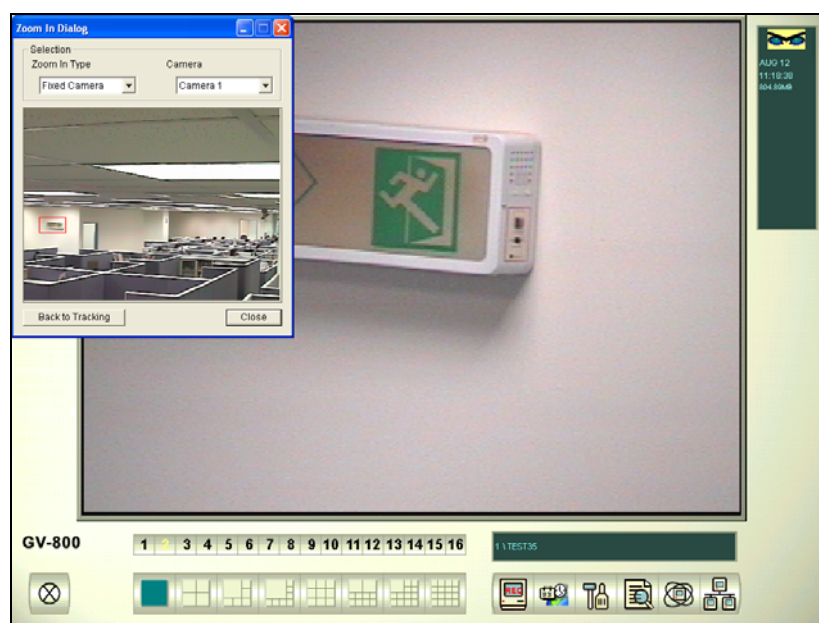

Figure 3-7 The outlined area in the Dialog window is magnified on the main screen
1. Click the **Configure** button (No. 14, Figure 1-2), point to **Video Analysis**, select **Object Tracking Application**, and click **Object Tracking View** to open the Zoom In Dialog window, overlapping on the main screen (Figure 3-7).